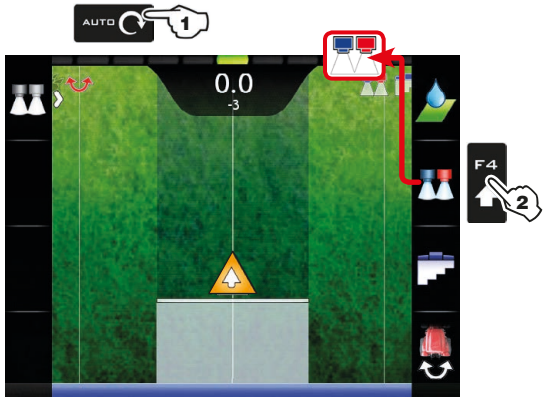

Fig. 276
- 2 Press **F4** (Fig. 276) to enable or disable automatic selection.
The number of nozzles displayed in Fig. 276 will vary according to the spraying point setting (par. 6.4.1).